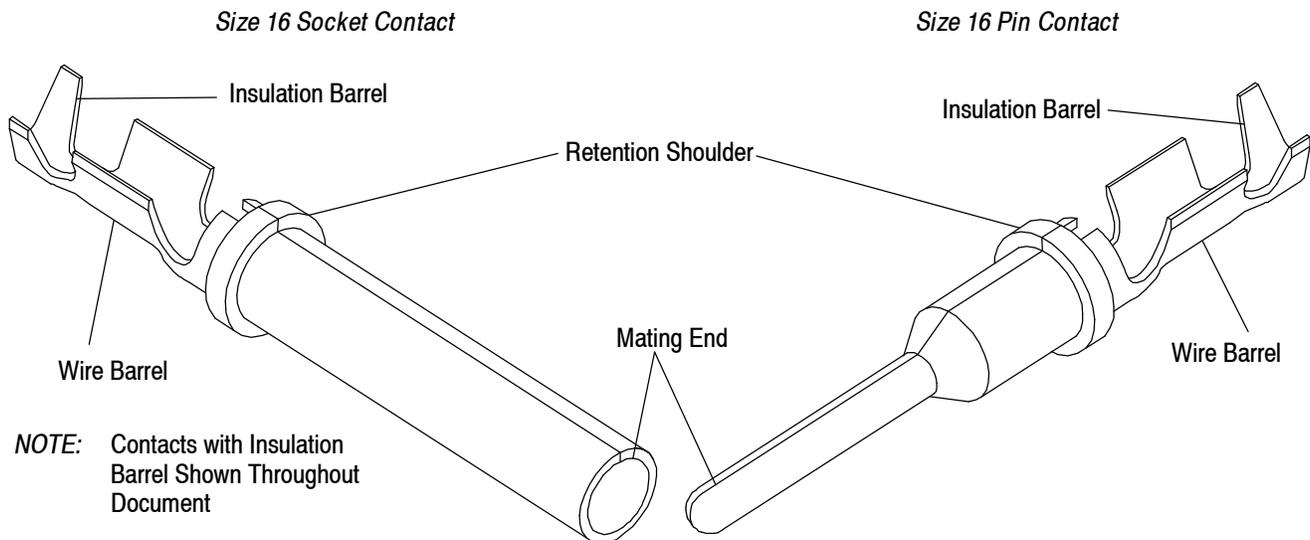

Figure 1
When corresponding with TE Connectivity (TE) Personnel, use the terminology provided in this specification to help facilitate your inquiry for information. Basic terms and features of components are provided in Figure 1.